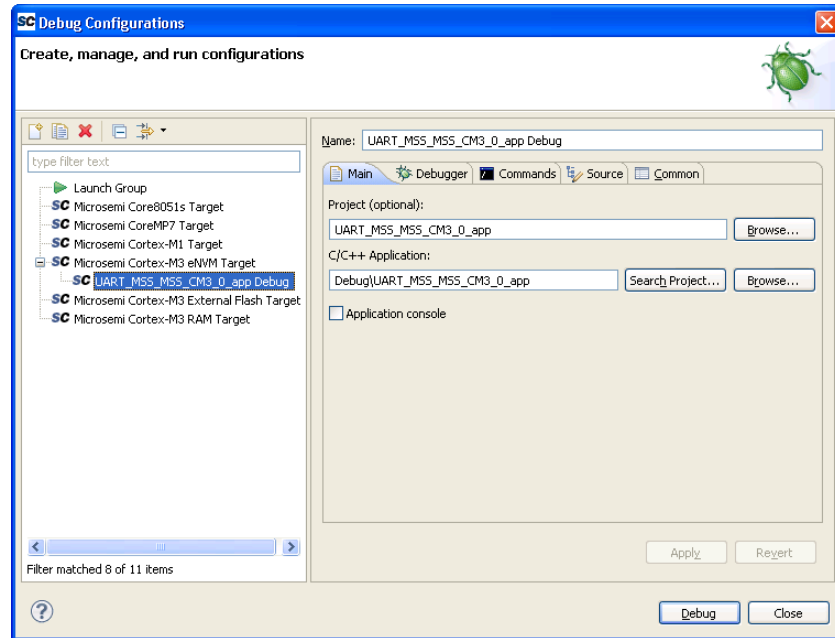

Figure 32 · Microsemi Cortex-M3 eNVM Target
11. Double-click **Microsemi Cortex-M3 eNVM** target, which displays a similar screen as Figure 32 .